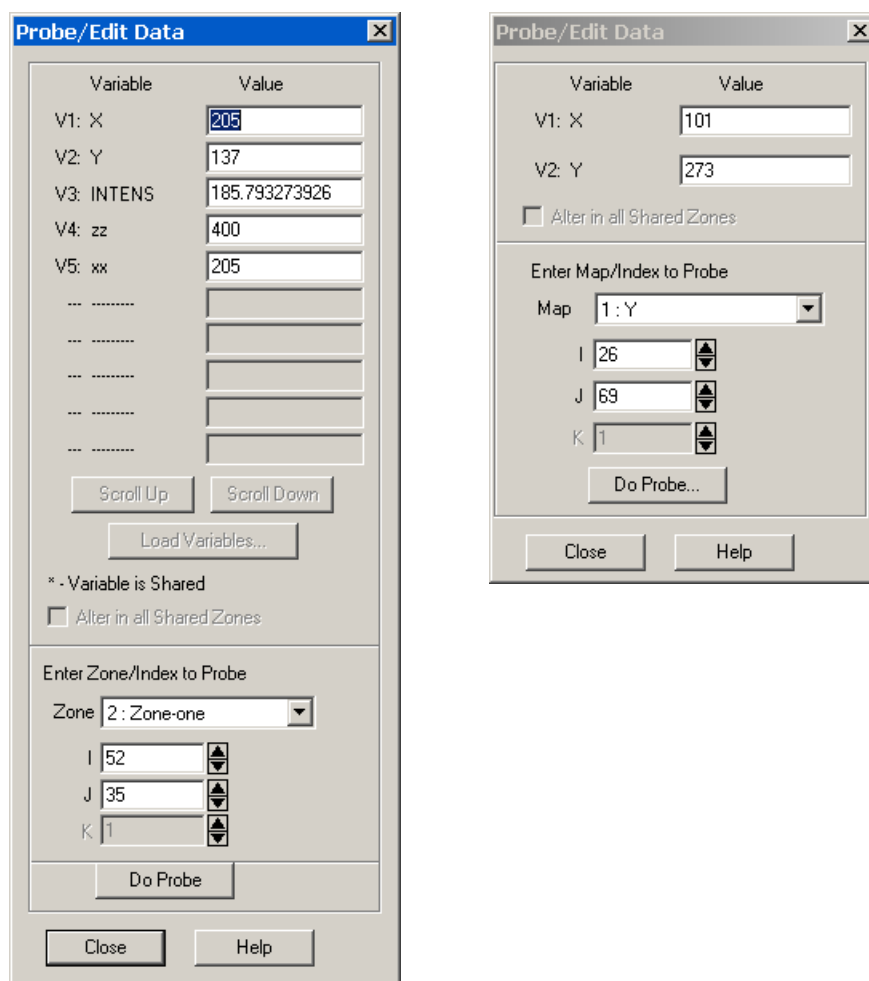

Figure 23-18. **Probe/Edit Data** dialog for field plots (left) and XY Line plots (right).
4. From the **Probe/Edit Data** dialog (shown in Figure 23-18), enter new values as desired.